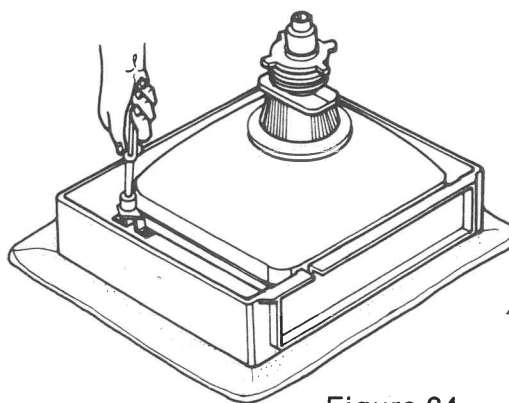

Figure 24
- 5-2 Remove the 4 Nuts holding CRT to Front Cabinet and hold up CRT. (Refer to figure 24)